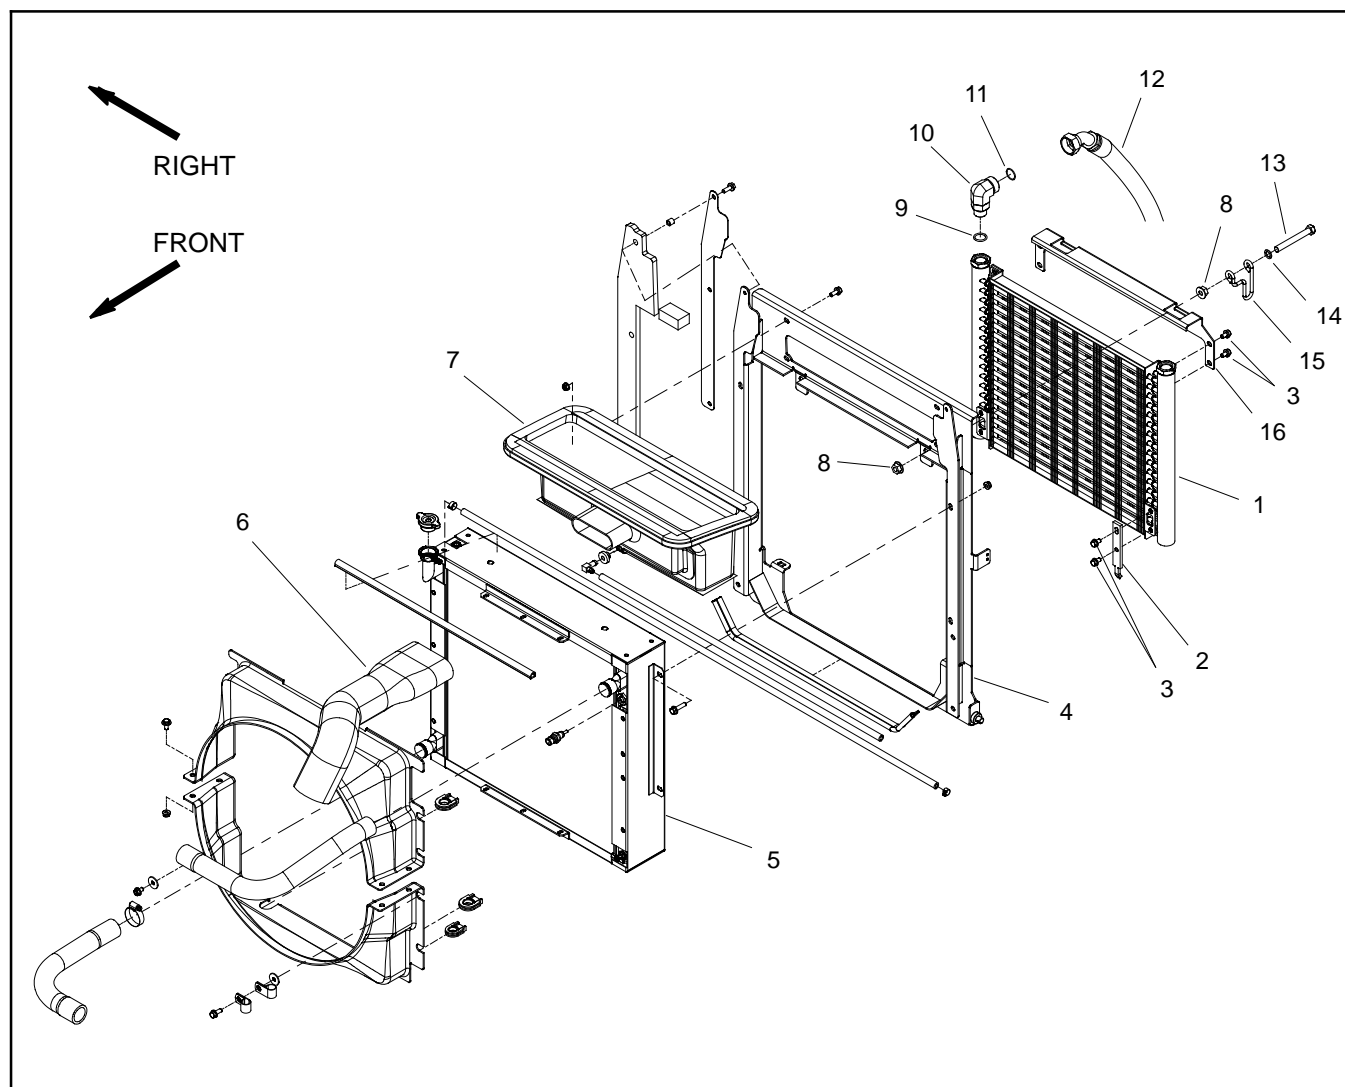

Figure 100
Removal (Fig. 100)
4. Remove oil cooler using Figures 100, 101 and 102 as guides.
Installation (Fig. 100)
2. Install oil cooler using Figures 100, 101 and 102 as guides. See Hydraulic Hose and Tube Installation in the General Information section of this chapter for hydraulic hose installation information.